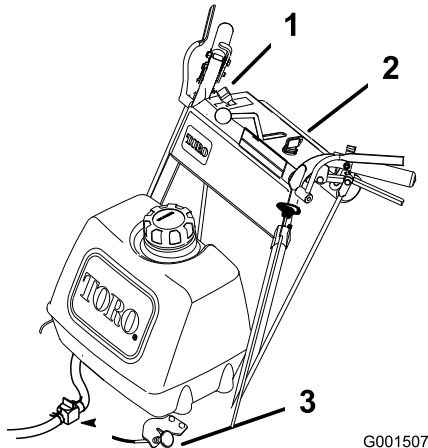

Figure 9
11. Push the choke to off as the engine warms up (Figure 9).
1. Move the throttle lever to slow (Figure 9).